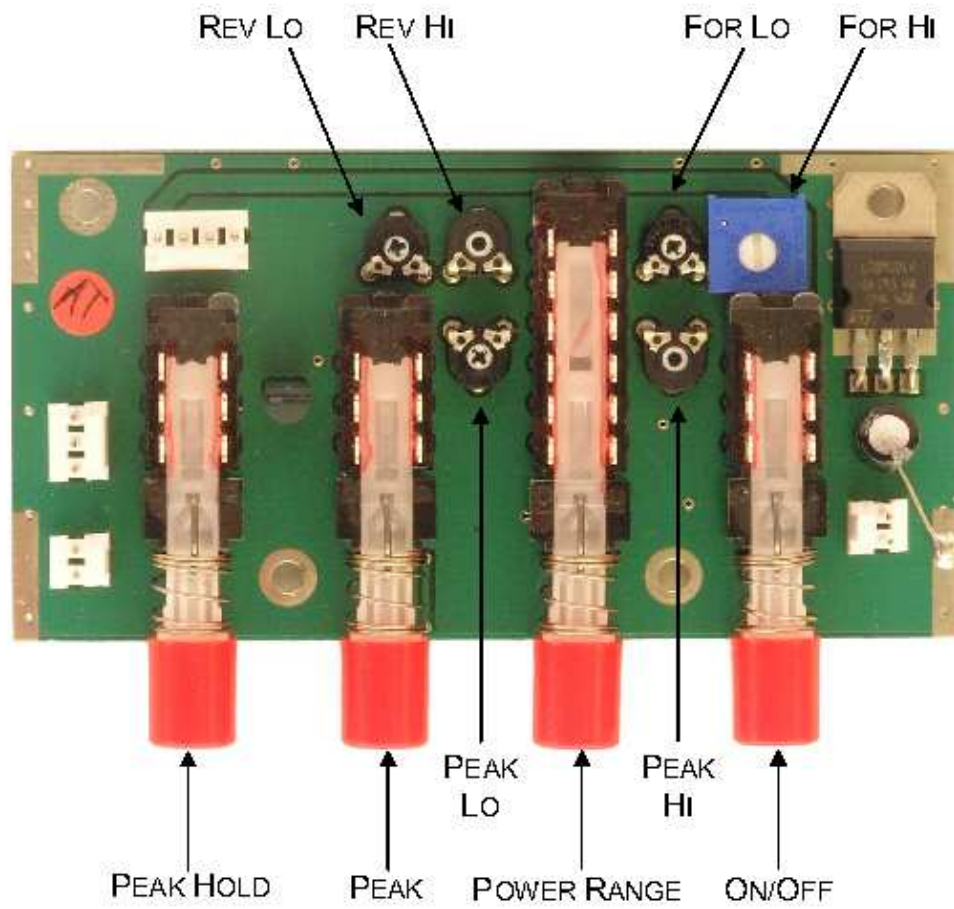

Figure 10.1: Meter Board Adjustment Locations
- (e) Adjust the **FOR LO** potentiometer (Figure 10.1, page 89) so that the AT-AUTO_(tm)'s forward power indication matches that shown on the calibrated Wattmeter.
- (c) Adjust the **PEAK LO** potentiometer (Figure 10.1) so that the AT-AUTO_(tm)'s forward power indication matches that shown on the calibrated Wattmeter.
- (c) Adjust the **PEAK HI** potentiometer (Figure 10.1) so that the AT-AUTO_(tm)'s forward power indication matches that shown on the calibrated Wattmeter.
- (c) Adjust the **FOR HI** potentiometer (Figure 10.1) so that the AT-AUTO_(tm)'s forward power indication matches that shown on the calibrated Wattmeter.
- (b) Adjust the **REV HI** potentiometer (Figure 10.1) so that the AT-AUTO_(tm)'s reflected power indication matches the forward power displayed on the calibrated Wattmeter.
- (c) Adjust the **REV LO** potentiometer (Figure 10.1) so that the AT-AUTO_(tm)'s reflected power indication matches the forward power displayed on the calibrated Wattmeter.